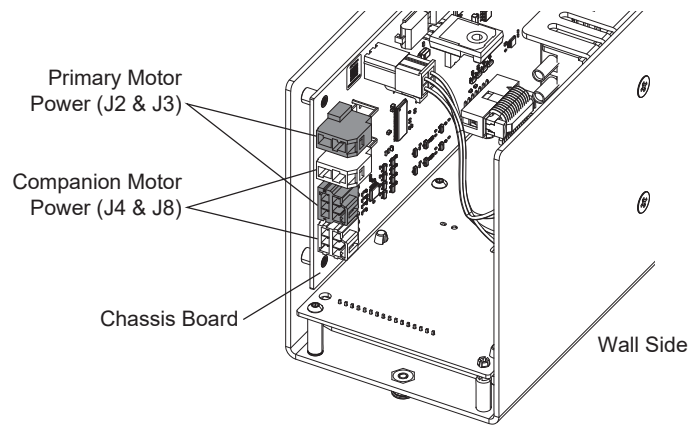
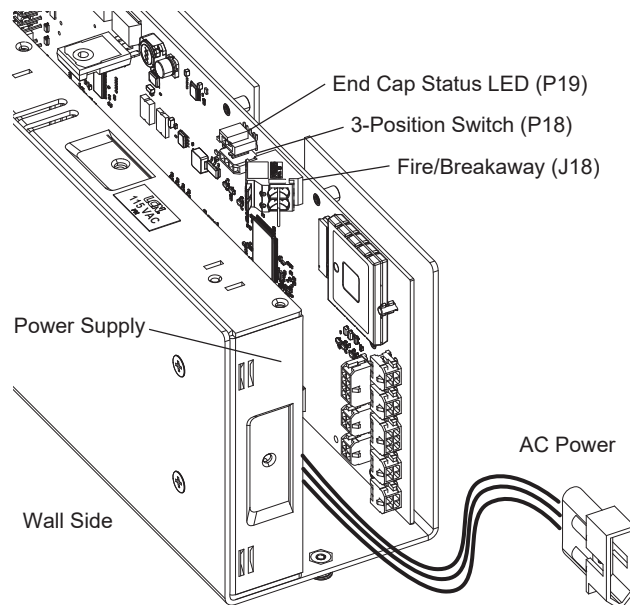
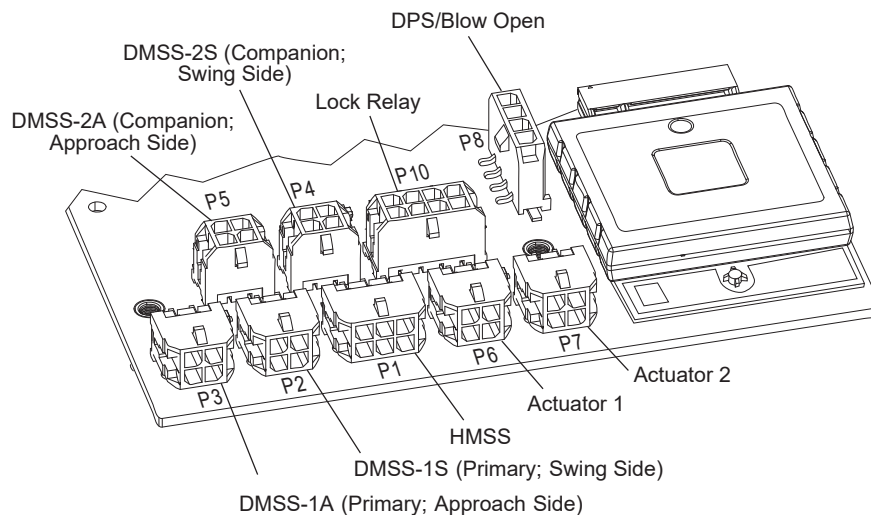

Figure 3-2 Control Box Gearmotor Headers
Figure 3-3 Control Box Peripheral Headers
Figure 3-4 Closeup of Control Box Peripheral Headers
- See Figure 3-2, Figure 3-3, and Figure 3-4 for names and locations of Control Box connectors.